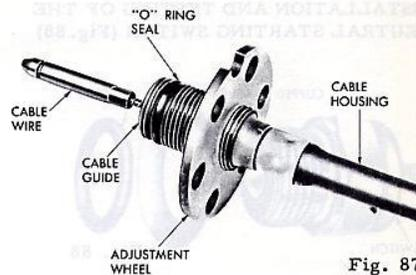

Fig. 87
5. Back the adjustment wheel off (counter-clockwise) until only 2 or 3 threads are exposed behind the wheel on the housing (Fig. 87).